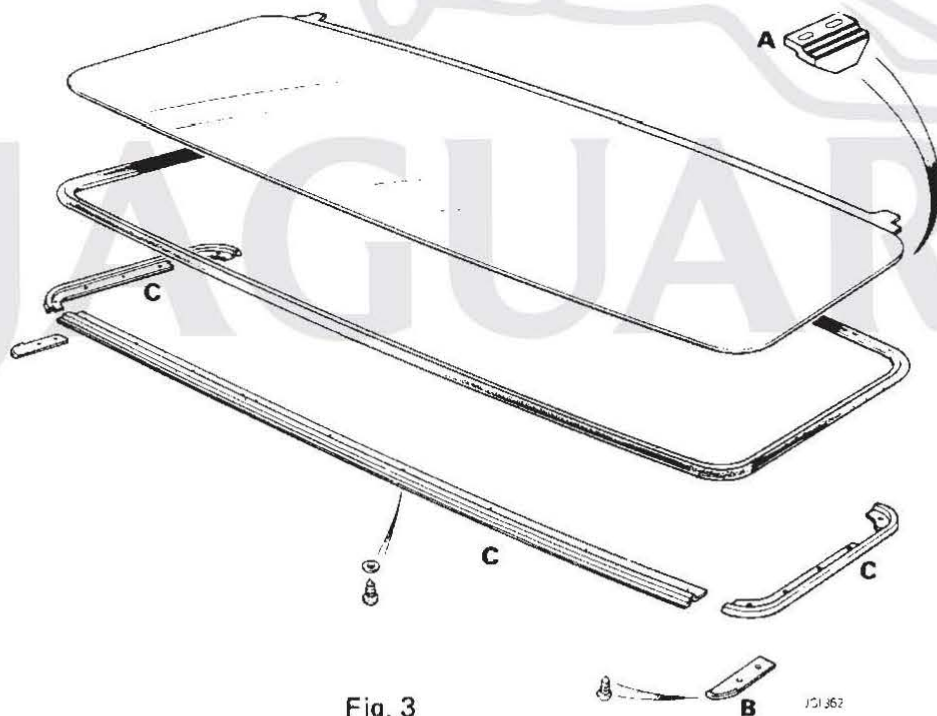

Fig. 3
2. Remove the screws securing the two nylon lifting brackets and remove the brackets, A Fig. 3.
3. Remove the screws securing the two wind deflector brackets and remove the brackets, B Fig. 3.
4. Remove the screws and remove the seal retaining brackets, C Fig. 3.